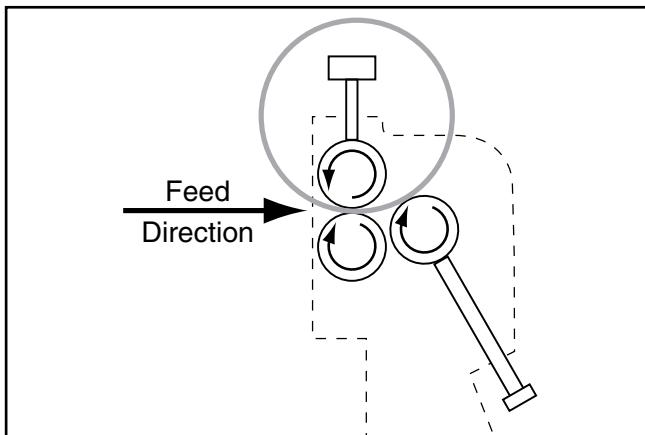

Figure 24. Cylinder completed.
7. Repeat **Steps 4–6** until you have produced the desired cylinder (see **Figure 24**).